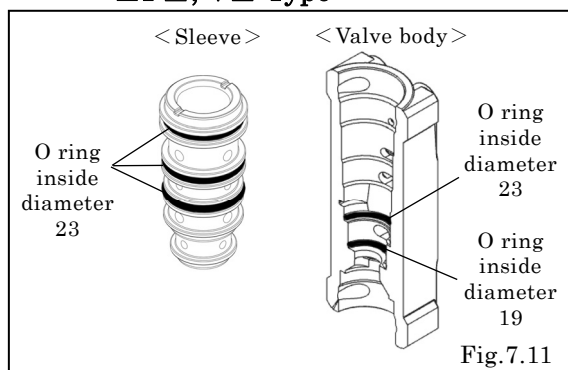

Fig. 7.11
- Please place the O rings to the right positions on the outer surface of the sleeve. [Fig. 7.11]
- Please insert the sleeve after putting the two O rings on the side of the valve body. [Fig. 7.11]
- When embedding the sleeve into the valve body, please adjust the positions of the holes on the sleeve to the holes on the valve body. [Fig. 7.11]